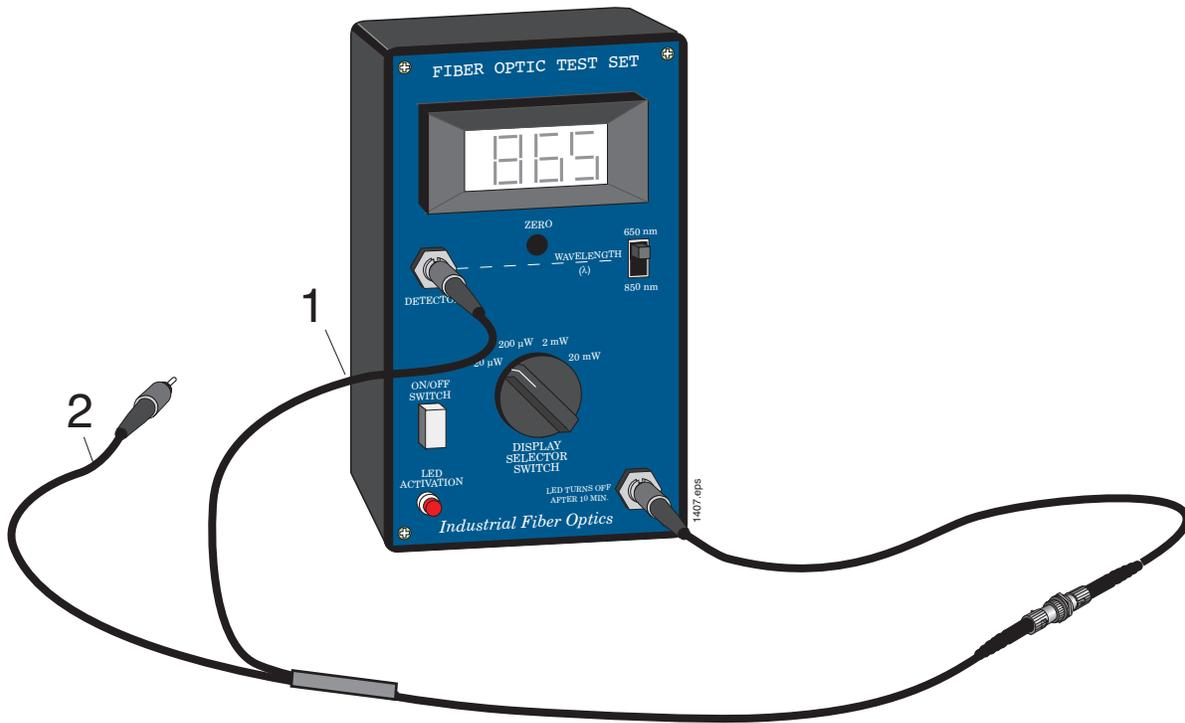

Figure 22. 1 × 2 fiber coupler connected to 1-meter fiber cable for characterizing.
9. Attach one of the two coupler fiber outputs to the Test Set DETECTOR receptacle as shown in Figure 22.